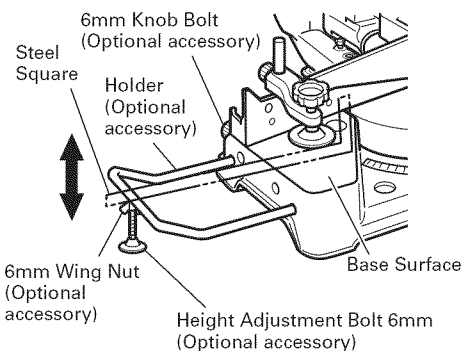

Fig. 13
- (1) As indicated in Fig. 13, use a steel square for aligning the upper edge of the holders with the base surface. Loosen the 6mm wing nut. Turn a height adjustment bolt 6mm, and adjust the height of the holder.
- (2) After adjustment, firmly tighten the wing nut and fasten the holder with the 6mm knob bolt (optional accessory). If the length of Height Adjustment Bolt 6mm is insufficient, spread a thin plate beneath. Make sure the end of Height Adjustment Bolt 6mm does not protrude from the holder.